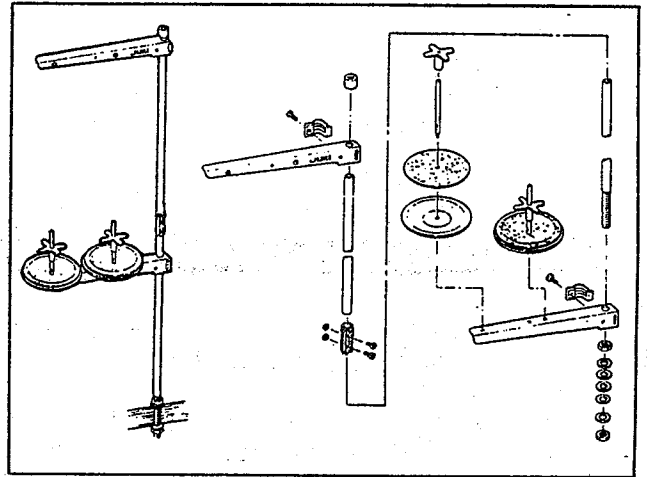

Fig. 2
2. INSTALLING THREAD STAND (Fig.2)